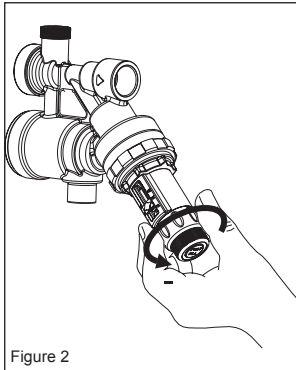

Figure 2
3. To reduce the system pressure setting, turn the adjusting knob counter clockwise to the desired set point (see figure 2).